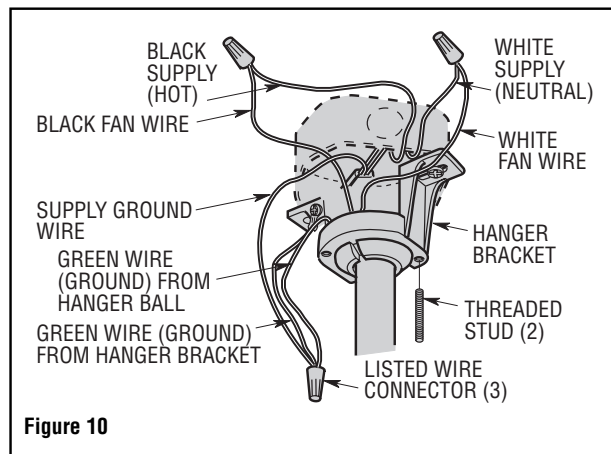

Figure 10
1. Connect the green grounding lead from the hanger ball and the green grounding lead from the hanger bracket to the grounding conductor of supply (this may be a bare wire or wire with green colored insulation). Securely connect wires with wire connectors supplied. (Figure 10.)
2. Securely connect the fan motor white wire to the supply white (neutral) wire using wire connector supplied (Figure 10). Securely connect the fan motor black wire to the supply black (hot) wire using wire connector supplied (Figure 10). After connections have been made, turn leads upward and carefully push the leads into the outlet box, with the wires spread apart and the white and green leads on one side of the outlet box and the black leads on the other side of the outlet box.